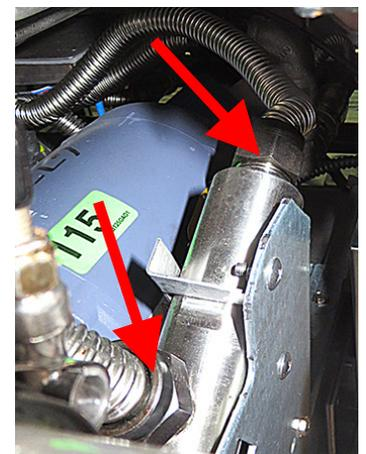

Figure 14
16. Disconnect both flexlines from the OQS sensor (see Figure 14).